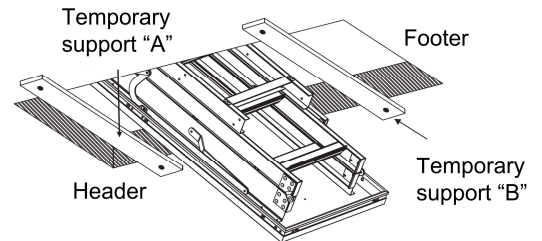

FIGURE 11 : PLACING THE ATTIC LADDER INTO THE ROUGH OPENING
H. Both installers need to work together to position the attic ladder on the temporary support boards. When installer #2 is in the attic and ready to assist, Installer #1 will raise the attic ladder into the rough opening. See **Figure 11**. DO NOT climb a ladder while lifting the attic ladder into the rough opening or you could fall. If the ceiling height or weight of the attic ladder makes lifting difficult or impractical, secure a rope to the attic ladder so Installer #2 can assist by pulling on the rope to raise the attic ladder into rough opening and placing it on the temporary support boards.